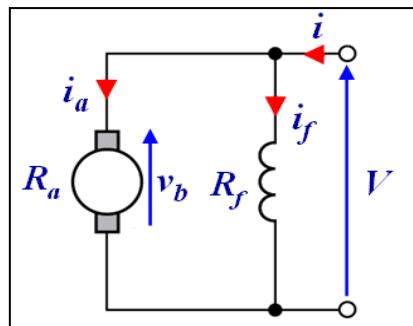

Figure Q2[d]
- [d] A permanent magnet DC motor shown in Figure Q2[d] has an armature resistance of 1.0Ω and field resistance of 0.5Ω . When a voltage of 240 V is applied to the motor, it reaches a steady-state speed of rotation of 30 rev/s and draws an armature current of 50 A and field current of 20 A.